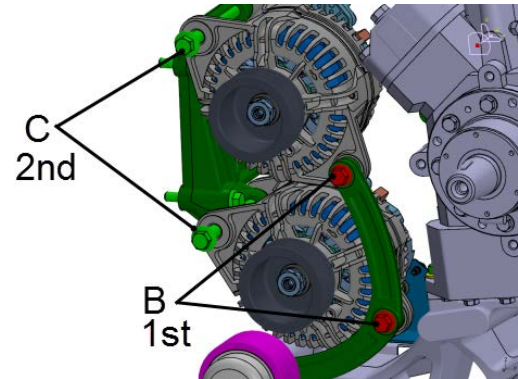

FIGURE 17
22. In order to assure proper installation, it is important to tighten the alternator mounting bolts in proper sequence (FIGURE 17).